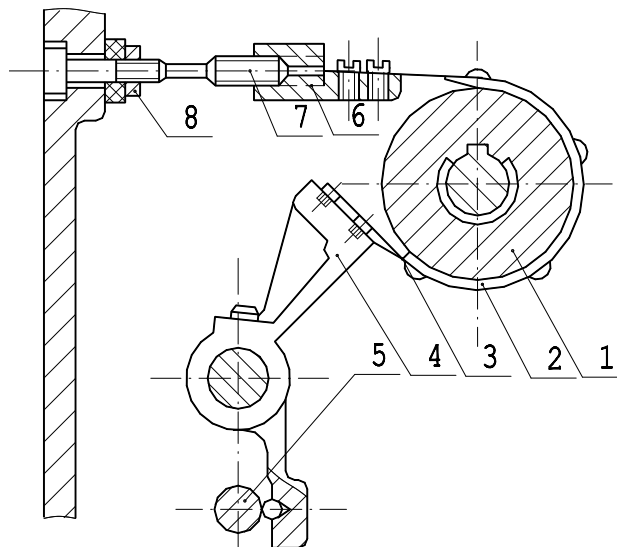

Fig.14 Braking Mechanism of Spindle
Brake wheel 1 (Fig. 14) is mounted on the shaft IV. The brake band (2) around the brake wheel is fixed by the screw (3) to the adjustable pull rods (4) and (6). When the